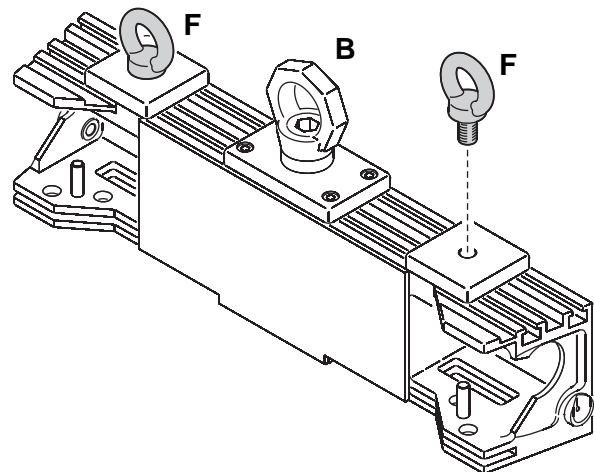

Figure 5: Additional eyebolts
1. See Figure 5. Obtain M12 threaded eyebolts **F** (not supplied) that are approved as a suspension point for the total weight they will have to support. Fasten two eyebolts securely into the threaded holes in each Header as illustrated and use these as suspension points for the Header.